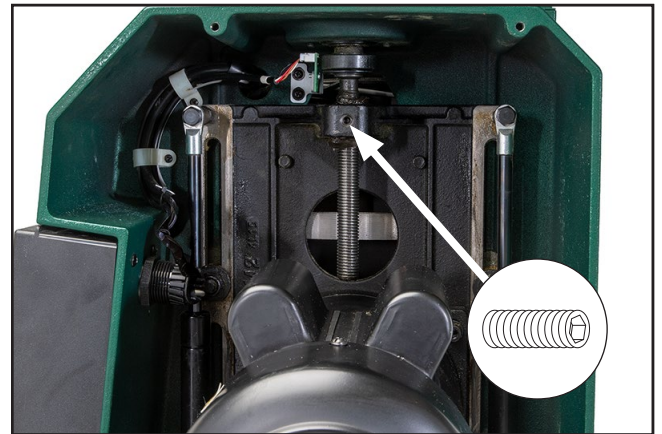

Figure 42. Location of elevation set screw.
1. Tighten or loosen elevation set screw to adjust until height handwheel backlash is no more than $\frac{1}{8}$ turn (see **Figure 42**).